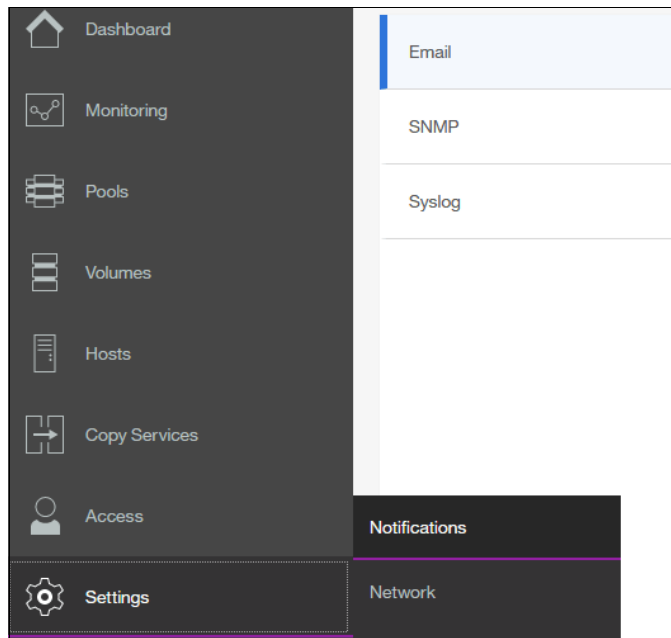

Figure 7-2 Selecting Notifications in the Settings section
1. From the FS9100 System pane, click the **Settings** selection and click **Notifications**, as shown in Figure 7-2.